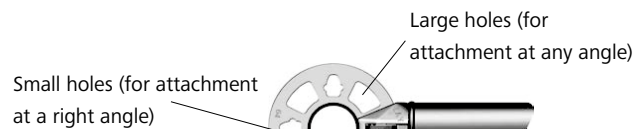

Fig. 9.2 Punched disc
4. Install the MTT ledgers in the small holes in the punched discs (Fig. 9.2).